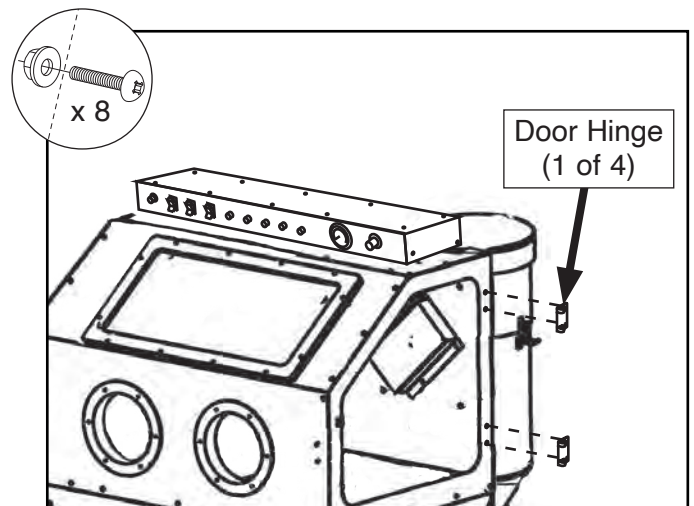

Figure 12. Mounting locations for door hinges.
- Install (4) door hinges on cabinet body with (8) M6-1 x 12 Phillips head screws and M6-1 flange nuts (see **Figure 12**).